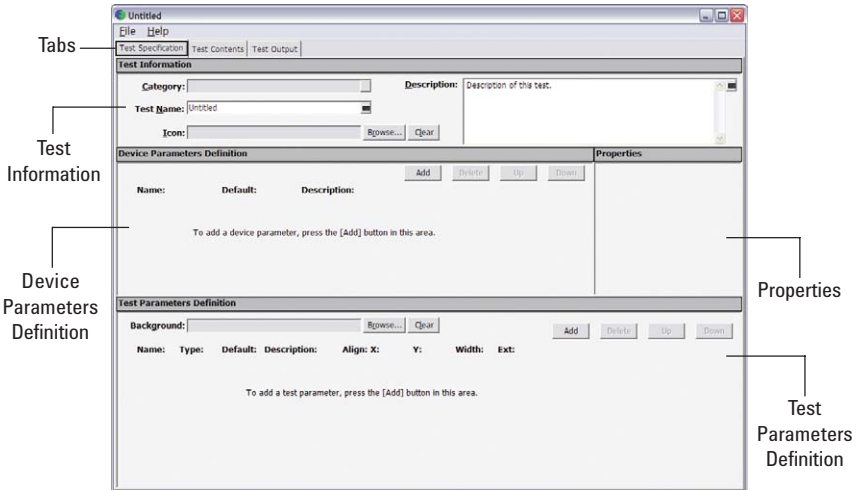

Figure 4. Test Definition Window showing the four main setup areas under the Test Specification Tab.
2. In the Library pull-down menu, select “Define New Test.” The test definition window appears, as shown in Figure 4.
When the Test Definition window opens, the Test Specification Tab is the default. Figure 4 also shows the four main setup areas under the Test Specification Tab: